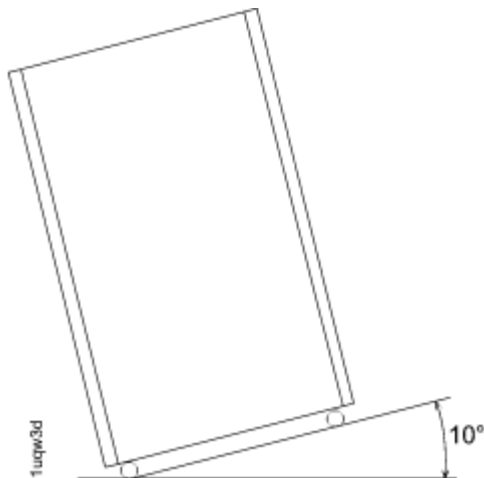

Figure 6. Maximum tilt for a packed frame is 10°
3. To compensate for the weight of the storage system shipment, ensure that the loading ramp at your site does not exceed an angle of 10° . (See Figure 6 on page 81.)